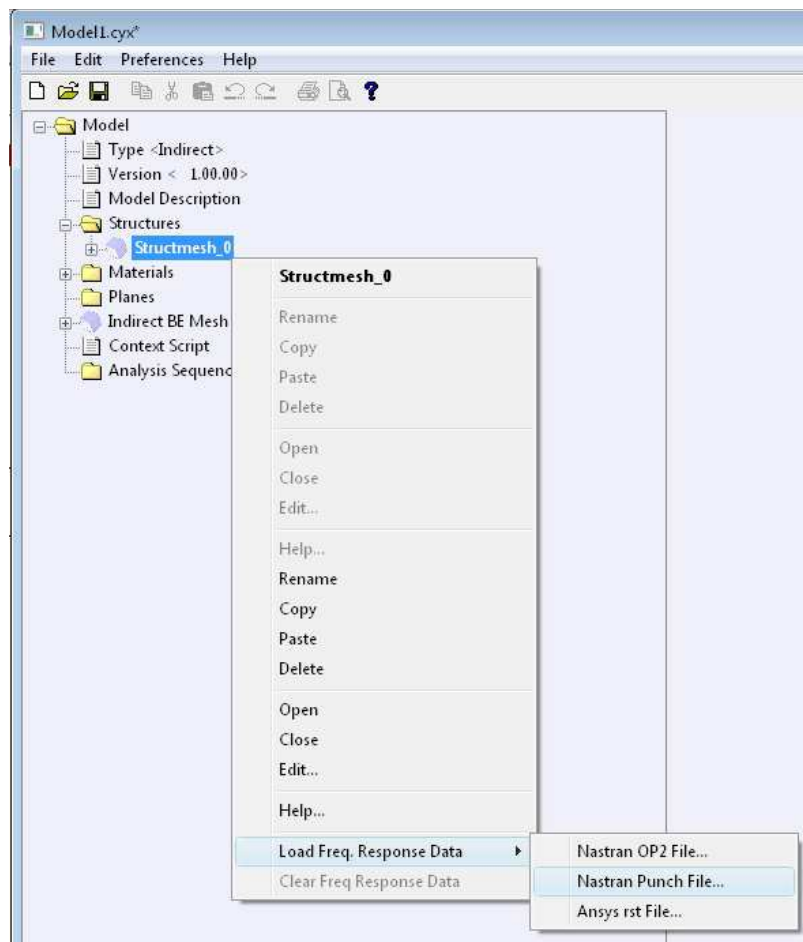

Figure 6: Load frequency response data into Coustyx.
- Right-click on **Structmesh\_0** or *<Struct Mesh Name>* and select: **Load Freq Response Data > Ansys rst File** (as shown in Figure 6). The other valid data formats from which frequency response data can be loaded into Coustyx are **Nastran OP2 File** and **Nastran Punch File...**